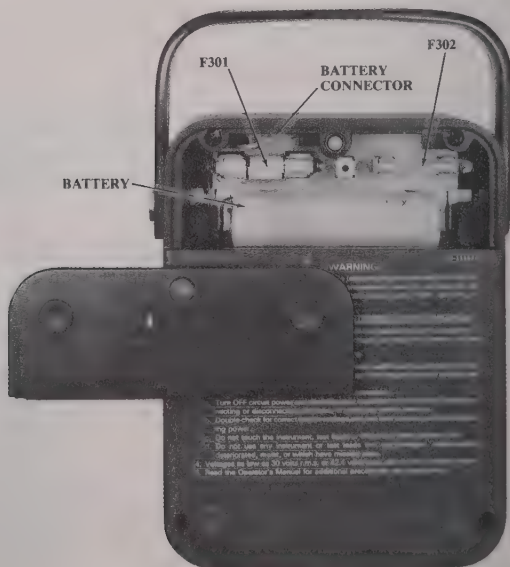

Figure 6-1. Simpson 360-3 Fuse Location
6.3.2 Noting how the battery is positioned inside the compartment, disconnect its connector from the circuit board and lift the battery out. Refer to Figure 6-1.
6.6.5 To replace F301 or F302, remove the battery/fuse compartment cover in accordance with paragraph 6.2. F301 is the larger fuse. (Refer to Figure 6-1.)